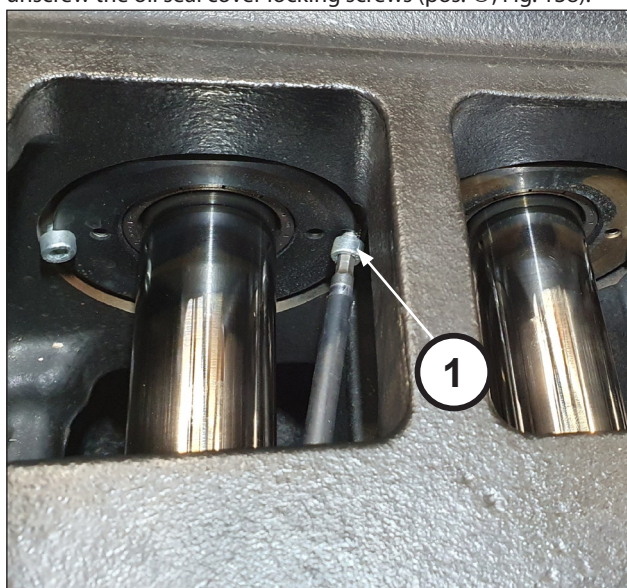

Fig. 138
unscrew the oil seal cover locking screws (pos. ①, Fig. 138).